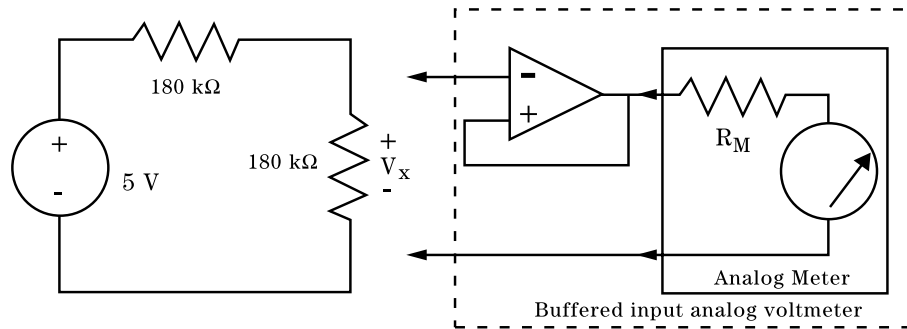

Figure 3
- c. In this exercise you will build an interface circuit using an OP AMP follower (or buffer amp), which substantially improves voltage measurements using the AMM (analog multimeter). In your lab journal, explain why the voltage read by the buffered analog voltmeter in Fig. 3 will be 2.5 V.
- a) Insert the OP AMP follower as an interface circuit between the source circuit and the AMM as shown in Fig. 3.